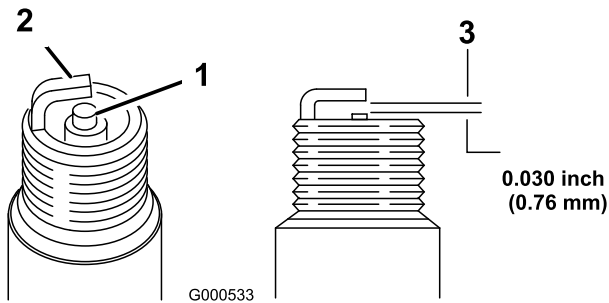

Figure 33
1. Inspect the spark plug (Figure 33).
2. Check the gap between the center and side electrodes (Figure 33). Bend the side electrode if the gap is not correct.